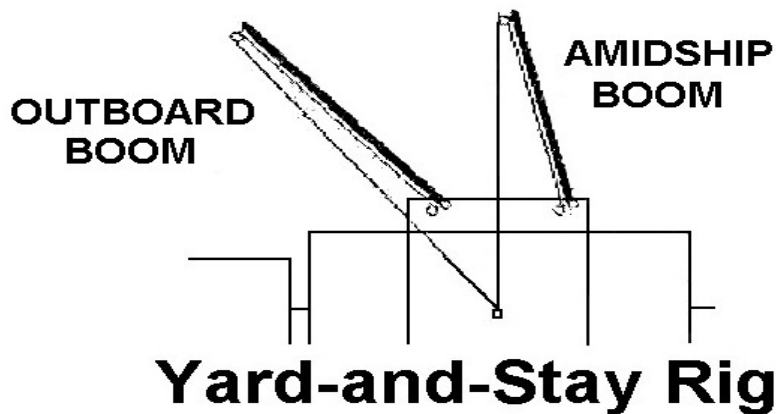

Figure 3-34
1. Rig a yard-and-stay rig (see Figure 3-34).